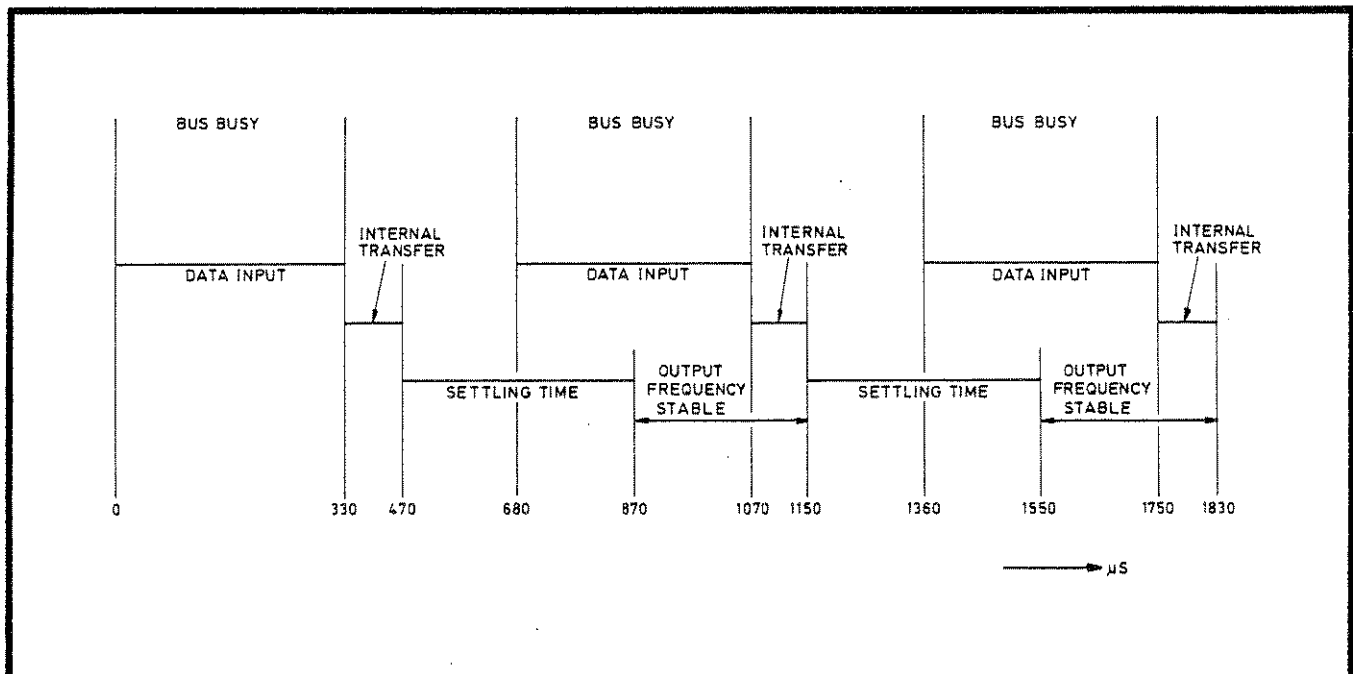

Fig. 5.2 Fast Learn Mode Timing
5.11.3.2 Since the processing time is 680 μ s, the receipt of a second string may commence before settling is complete. Operation at the maximum rate is illustrated in Fig. 5.2.